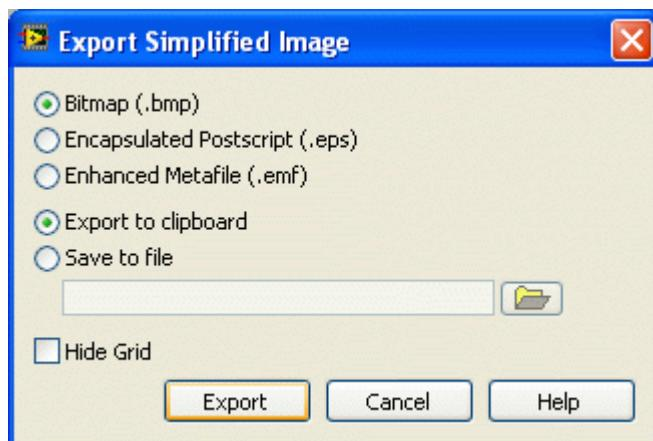

Figure 47: Export Simplified Image dialog box.
2. The dialog box shown in Figure 47 opens and gives various image export options. One way is to export the image to the clipboard as a bitmap. This can then be pasted in a graphical software (e.g MS Paint, Irfanview) and saved to a desired format (e.g. gif).